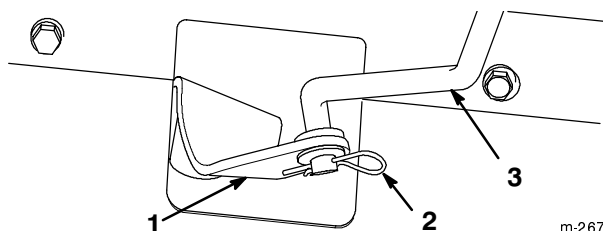
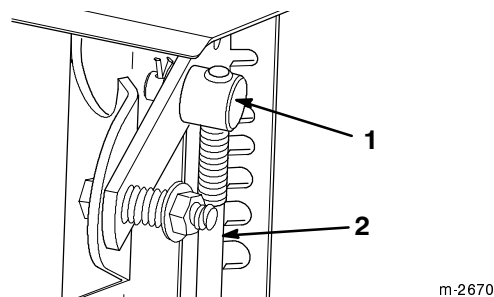

Figure 5
Figure 6
1. Pull the speed selector arm (Fig. 5) to the most outward position.
3. Rotate the speed selector rod in the trunnion (Fig. 6) until the bottom end of the rod can slip into the hole in the speed selector arm (Fig. 5).
4. Install the speed selector rod into the selector arm, add one flat washer on the rod, and secure it with a cotter pin (Fig. 5).